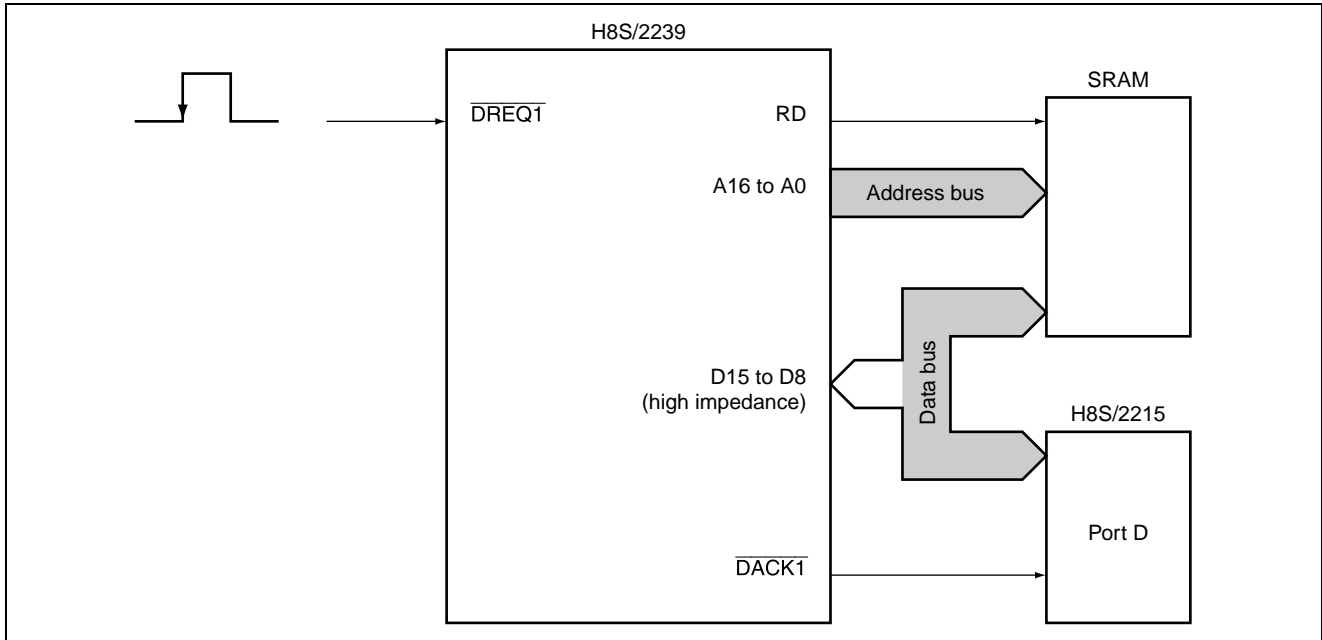

Figure 1 Data Bus in the Single-Address Mode
1. As shown in figure 1, this sample task uses DMAC single-address mode to transfer data between the external space specified by a transfer source address or transfer destination address, and an external device that is selected by a DACK strobe independently of the address.